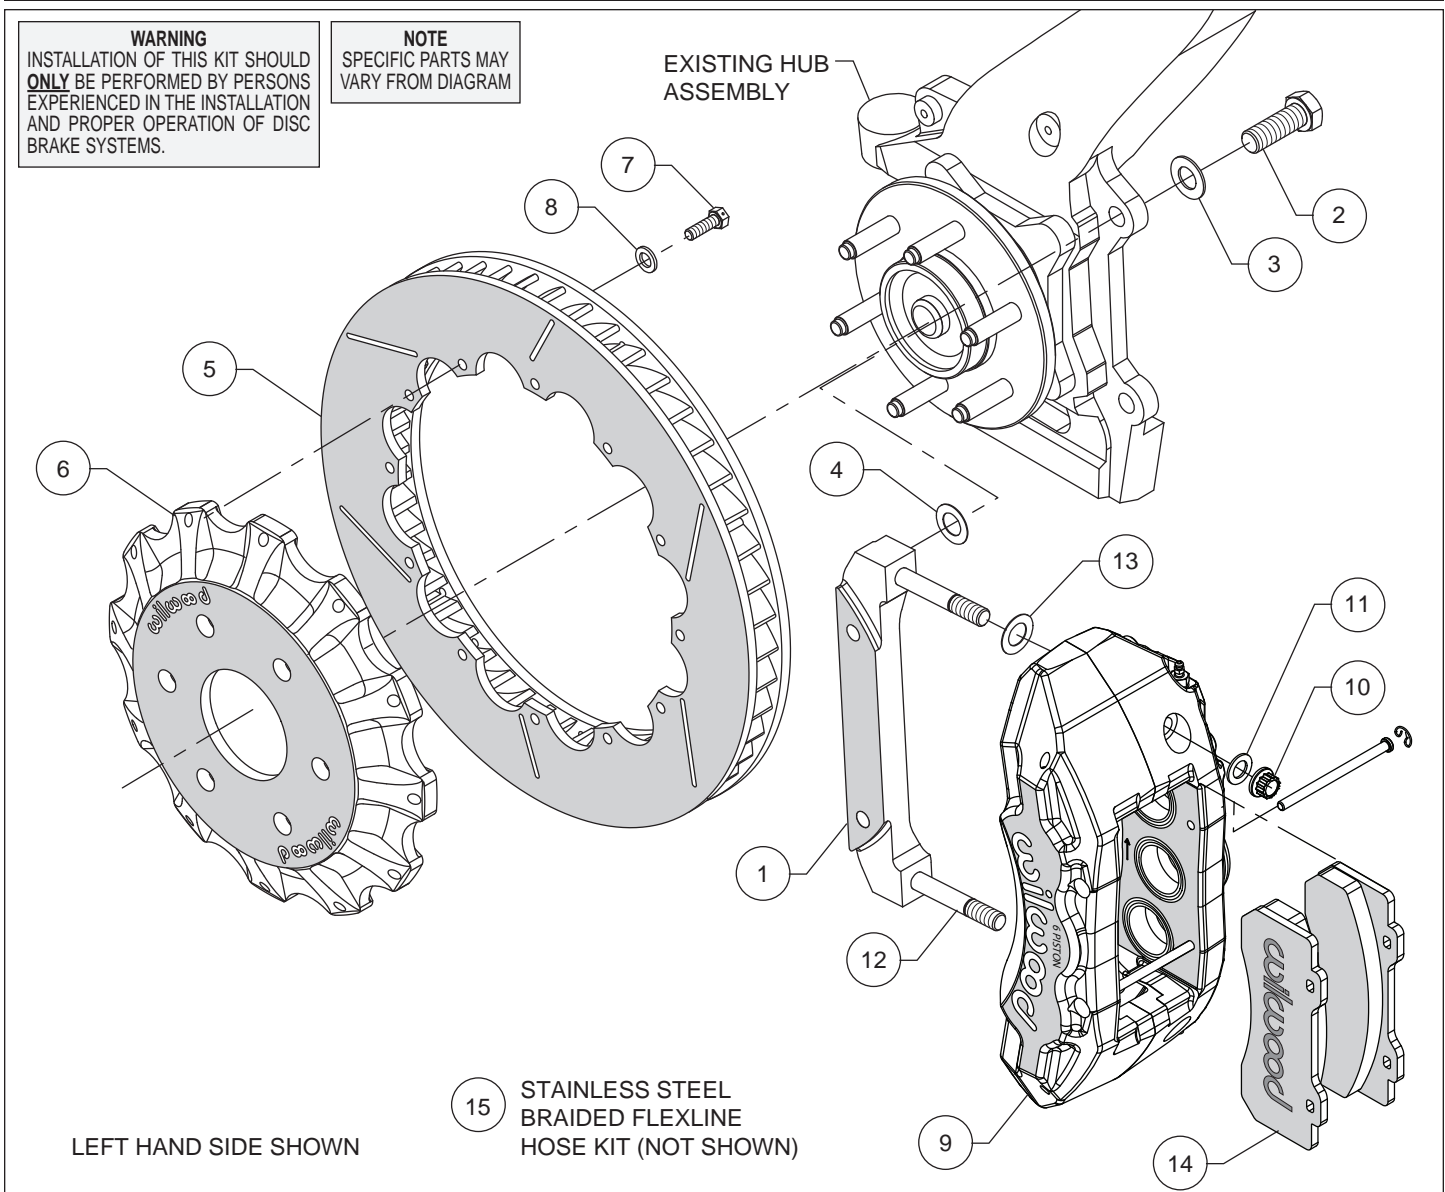
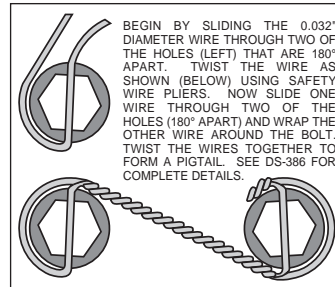

Figure 1. Typical Installation Configuration
Figure 3. Safety Wire Diagram
Assembly Instructions (numbers in parenthesis refer to the parts list and Figure 1 on the preceding pages):
- The caliper mount bracket (1) should initially be installed with clean, dry threads on the mounting bolts. Orient the bracket as shown in Figure 1 and Photo 1, and install using bolts (2) and washers (3). Initially place one .029 thick shim (4) on each bolt between the bracket and upright, Figure 1. Temporarily tighten the mounting bolts. **NOTE:** *The bracket must fit squarely against the mount bosses on the upright.* Inspect for interference from casting irregularities, machining ridges, burrs, etc. Later, after the caliper alignment has been checked, the mount bolts will be secured using red *Loctite*[®] 271.
- Orient the rotor (5) and the hat (6) as shown in Figure 1 and Photo 2. Attach rotor to hat using bolts (7) and washers (8). Using an alternating sequence, torque to 25 ft-lbs. For an added measure of security, the bolts may be safety wired using standard 0.032 inch diameter stainless steel safety wire as shown in Figure 3. Refer to Wilwood's data sheet DS-386 for complete safety wire installation instructions.
- NOTE:** *This kit contains distinct right and left hand calipers that must be mounted in a specific direction, as described below.* Lubricate the caliper mounting studs (12) with lightweight oil. Mount the caliper (9) onto the bracket (1) using lock nuts (10) and washers (11), Figure 1. Ensure that the caliper is mounted so that the largest pistons are at the rotor exit end of the caliper, in relation to the direction of rotor rotation. Temporarily tighten the lock nuts and view the rotor through the top opening of the caliper. The rotor should be centered in the caliper, Photo 3. If not, adjust by adding or subtracting shims (4) between the bracket and the upright. Always use the same amount of shims on each of the two mounting bolts. Once the caliper alignment is correct, remove the bracket mounting bolts (2) one at a time, apply red *Loctite*[®] 271 to the threads, and torque to 77 ft-lb.